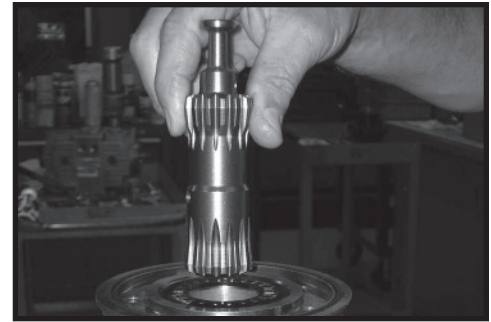

Figure 51
**NOTE: One or two alignment studs screwed finger tight into housing (18) bolt holes, approximately 180 degrees apart, will facilitate the assembly and alignment of components as required in the following procedures. The studs can be made by cutting off the heads of either 3/8-24 UNF 2A or 5/16-24 UNF 2A bolts as required that are over .5 inch (12.7 mm) longer than the bolts (1, 1A, 1B, or 1C) used in the Torqmotor™.**
11. Install drive link (10) the long splined end down into the coupling shaft (12) and engage the drive link splines into mesh with the coupling shaft splines. SEE FIGURE 51.